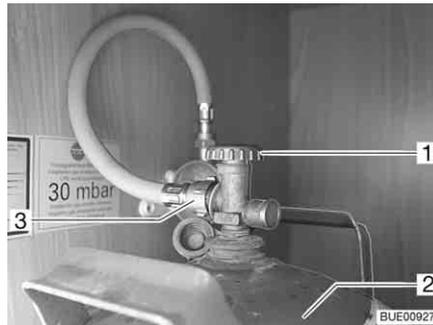

Fig. 116 Gas bottle compartment
- Close the regulator tap (Fig. 116,1) on the gas bottle (Fig. 116,2). Pay attention to the direction of the arrow.
- Unscrew the gas tube (Fig. 116,3) from the gas bottle.